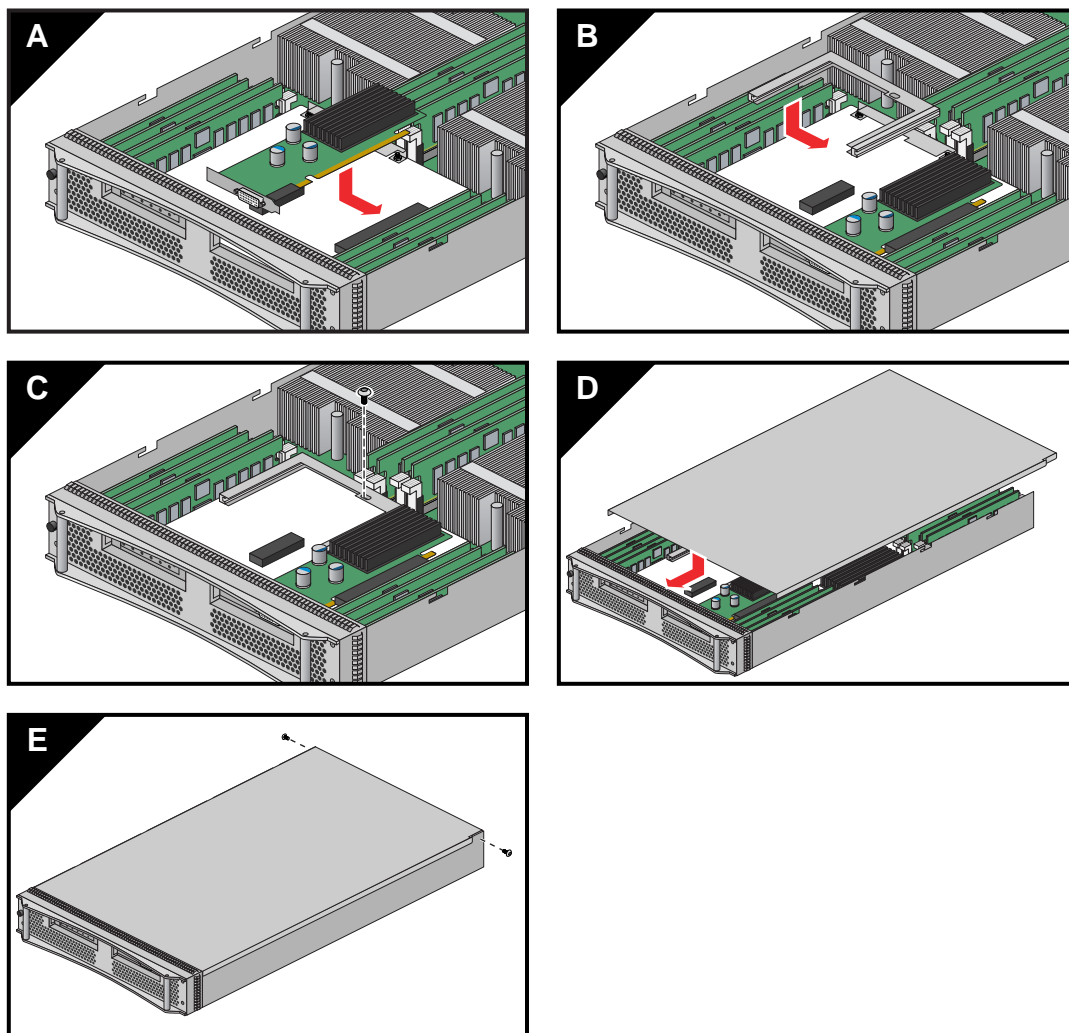

Figure 5-6 Replace PCIe Card
8. Install a new PCIe card by aligning the board's interface connector with the riser's and inserting until the card is flush to the connector, see Figure 5-6. The PCIe functional connector(s) such as graphics, Fibre Channel, etc. should protrude from the front of the blade.